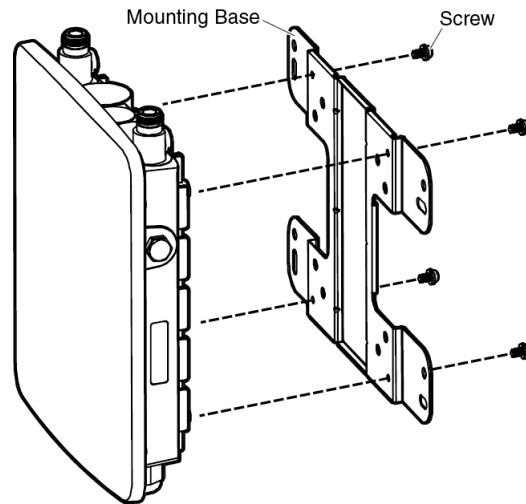

Figure 15. Attaching the Mounting Base to the Access Point
3. Attach the mounting base to the access point with the screws using a Phillips-head screwdriver, as shown in Figure 15 on page 43.
2. Attach the mounting base to the access point with the screws using a Phillips-head screwdriver. See Figure 15 on page 43.